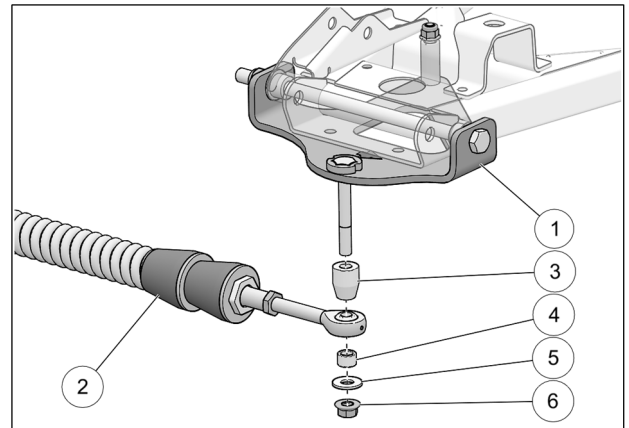

Fig. 11
10. Attach stabilizing rod (2) to anchor bracket (1), using the long spacer bushing (3), short spacer bushing (4), flat washer (5) and nut (6). Torque to  $70 \text{ N}\cdot\text{m}$  [ $52 \text{ lb}\cdot\text{ft}$ ]. See Fig. 11